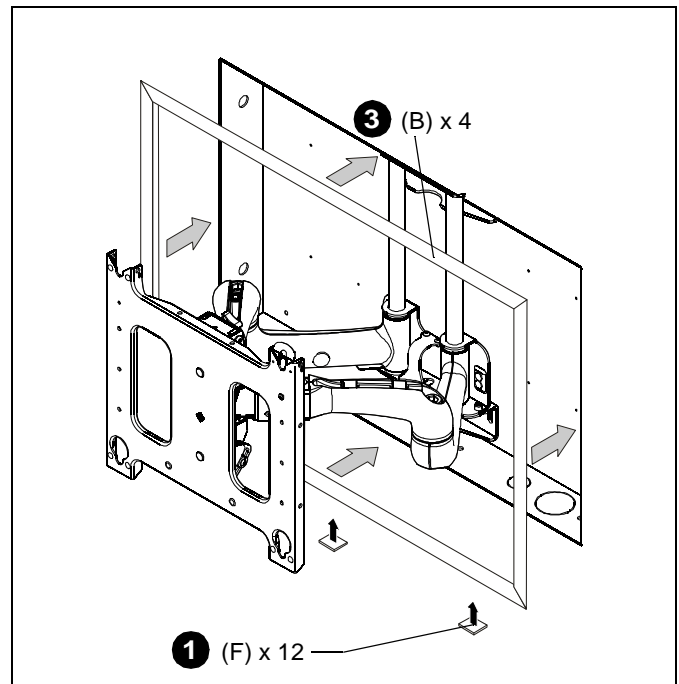

Figure 3
1. Remove paper covering adhesive and affix three tape squares (F) to inside lower flange of each trim piece (B). (See Figure 3)
2. Orient trim pieces (B).
3. Remove paper covering adhesive back from tape squares (F) on trim and press trim (B) against inner wall of box. (See Figure 3)